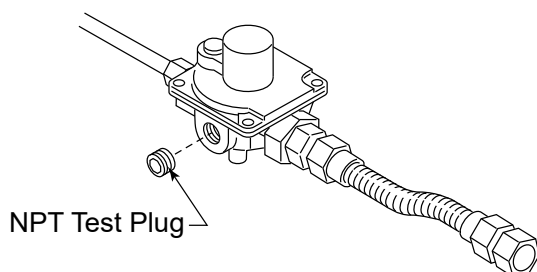

Figure 4.2 Pressure Test Point Location Manual Control
- Valve pressure taps are accessible by removing the right side log. See Figure 4.2.
Remove 1/8" NPT plug, located on side of regulator body. Install fitting and tubing to pressure gauge. After taking pressure reading, reinstall test plug. Check for gas leaks. See Figure 4.2.